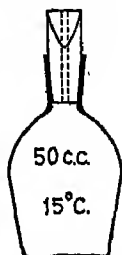

FIG. 188. A density bottle.
**Expt. 239. To find the S.G. of a liquid (turpentine).** The S.G. bottle (Fig. 188), sometimes called a Density Bottle, is a small flask, of about 50 c.c. capacity. It is fitted with a glass stopper through which runs a narrow hole. Weigh the bottle empty. Fill the bottle with turpentine and then insert the stopper. Some turpentine will come out through the hole. Make sure that there are no air bubbles under the stopper and that the hole is full of turpentine. Wipe the outside of the bottle dry. Hold the bottle by the neck so that the heat of the hand will not warm the whole bottle. Weigh the bottle and its contents. Empty the bottle and wash it out well with water. Fill with water, taking the same precautions as before. Weigh.